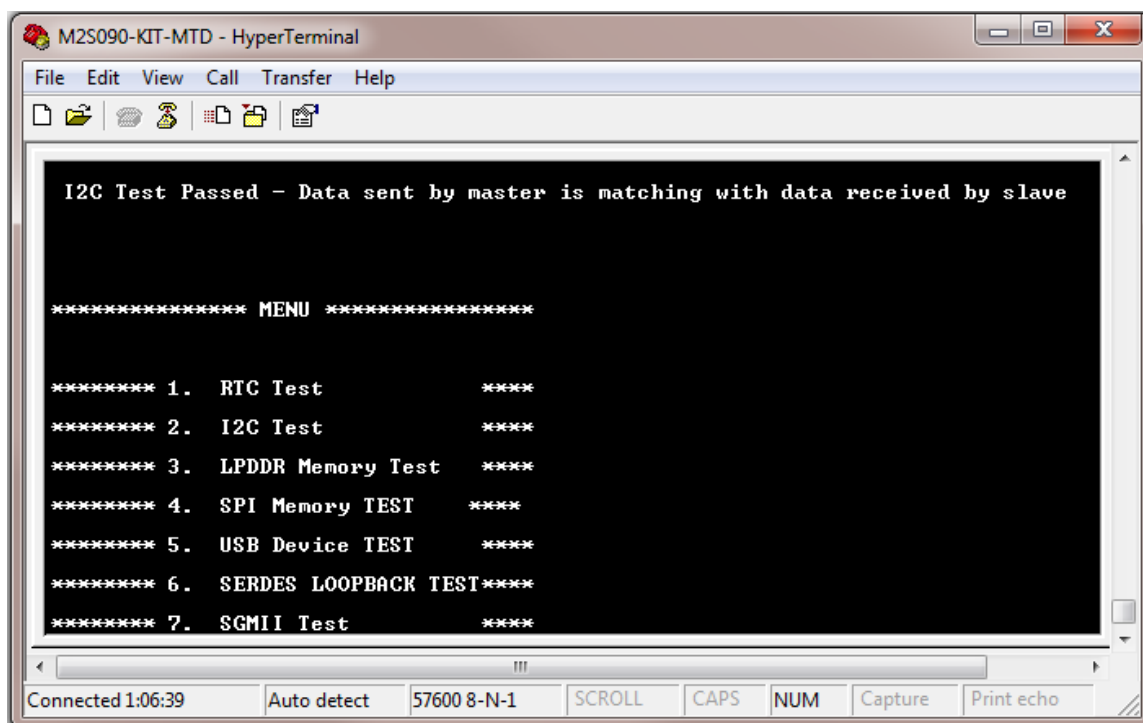

Figure 40 I2C Test Passed
5. Press **2** to run the I²C loopback test. Refer to Figure 40.